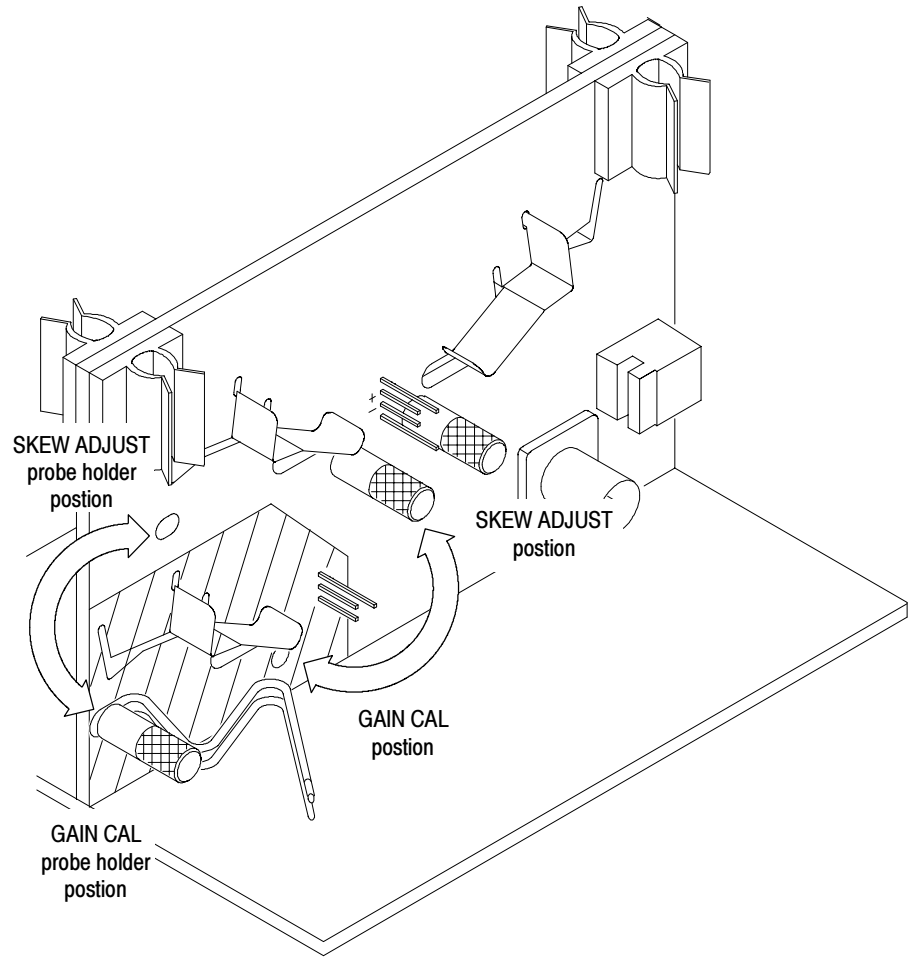

Figure 6: Alternate locations for guide posts and probe holders
1. Install the guide posts and probe holders to the SKEW ADJUST probe holder position. See Figure 6 on page 8.
3. Move the guide posts to the GAIN CAL position. See Figure 6 on page 8.
1. Install the guide posts and probe holders to the GAIN CAL probe holder-position. See Figure 6 on page 8.